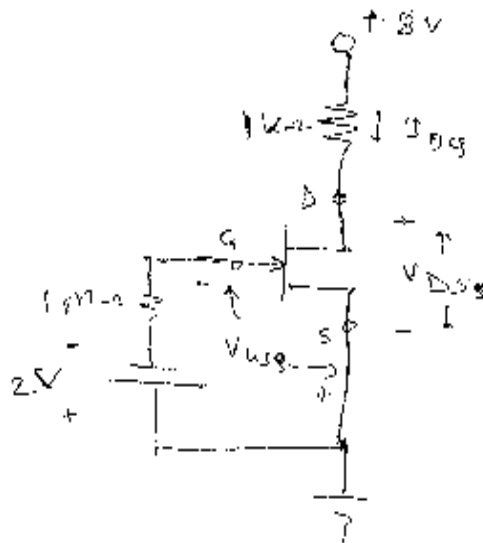

Figure 1
c) For the circuit shown in figure 1, JFET has $I_{DSS} = 10 \text{ mA}$, $V_{GS(OFF)} = -4 \text{ V}$.